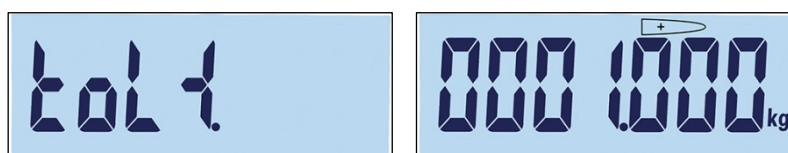

Figure 3-49: Positive Tolerance Label and Setting Screens
- The positive tolerance (**Tol +**) is edited in the next screen (Figure 3-49). Once the value is set, press  to move to the next step.